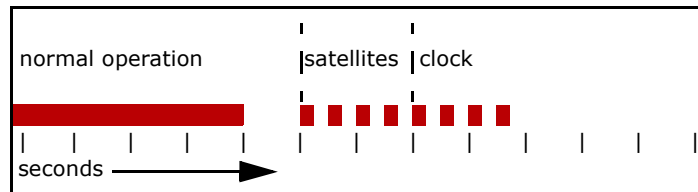

Fig. 2-31: Pattern of flashes indicating clock status.
- After the satellite indication, the LED pattern is 250ms on, 250ms off, from zero to four times (see Fig. 2-31). Table 2-2 explains the meaning of the number of flashes.